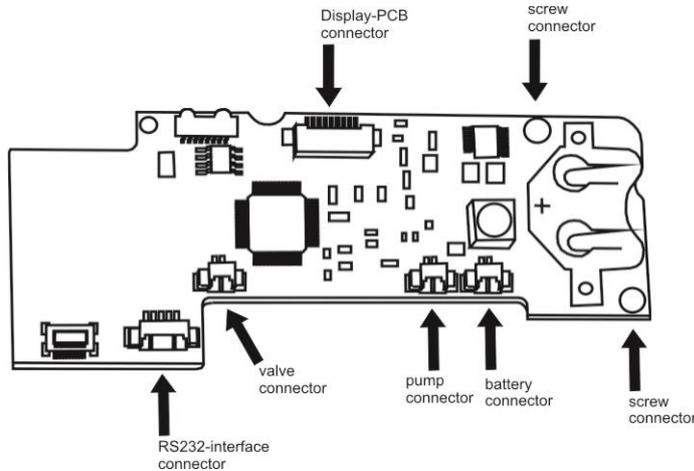

Fig. 16
- Disconnect the wire-to-board connectors on the mainboard and remove the 2 screws (see Fig. 16).